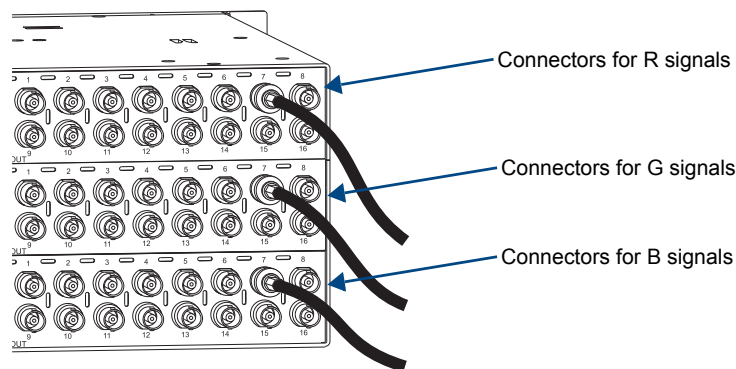

FIG. 20 Fasten cables onto input and output BNC connectors
The example in FIG. 20 shows a BNC cable attached to Output 7 on each board to route the R, G, and B components of an RGBHV signal. (The H and V components are routed on the second enclosure.)
1. Fasten the cables onto the input and output BNC connectors per signal type (FIG. 20).